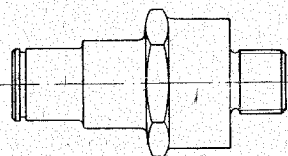

Fig. 70.
- c) or the bolt Part No. 7575.50 (Fig. 70), the tractor being fitted with the adjustable three-position drawbar besides the above-mentioned groups.